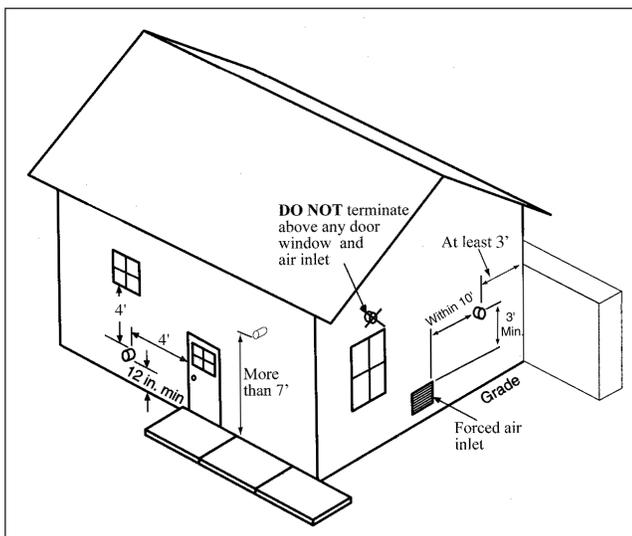

Fig. 15 - Termination Clearances of Category IV System
5. The vent termination must also maintain the following clearances; as shown in *Fig. 15 below*.
5. The vent termination must also maintain the following clearances; as shown in *Fig. 15 on page 26*.